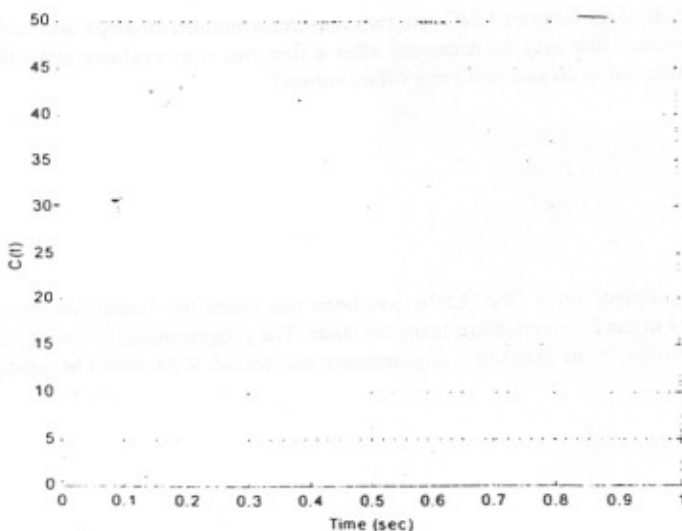

Figure 9.2: Step Response
The response of this system to a step input of magnitude 10 is shown in Figure 9.2.
- (5) b) Obtain K and τ from Figure 9.2.